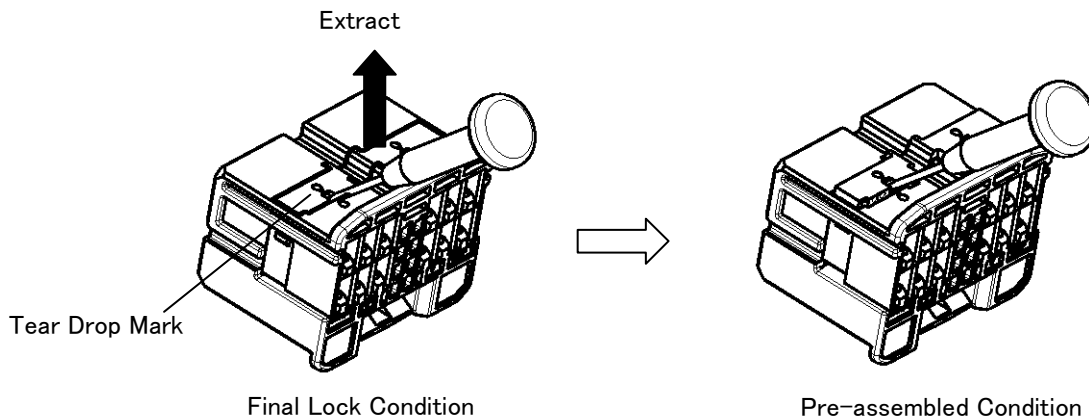

Fig.12
(1)Insert the 1mm blade screwdriver into the window of the retainer pointed by the tear drop mark. See Fig. 12.